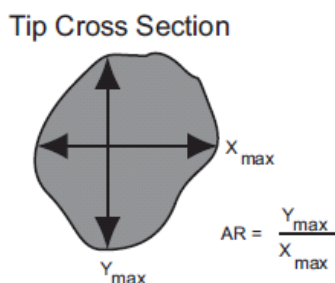

Figure 5.13j: Aspect Ratio Depiction
Aspect Ratio is defined as the ratio of the maximum vertical (Y) dimension to the maximum horizontal (X) dimension of a tip cross section as seen in Figure 5.13j.